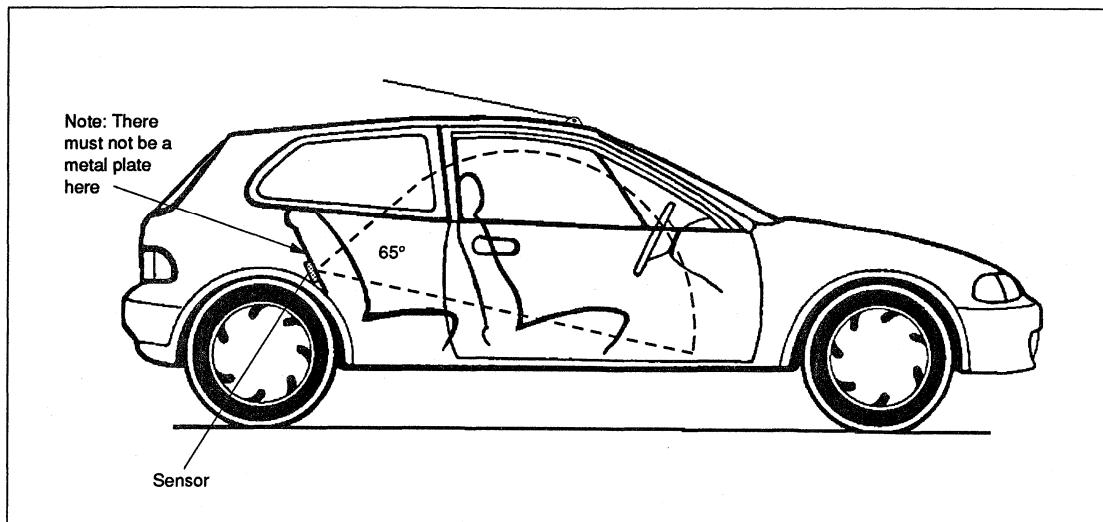

Figure 3: Mounting of DA5802 at the rear of the vehicle - Side View
2. Behind the rear seat - but not behind metal (see Figure 3).